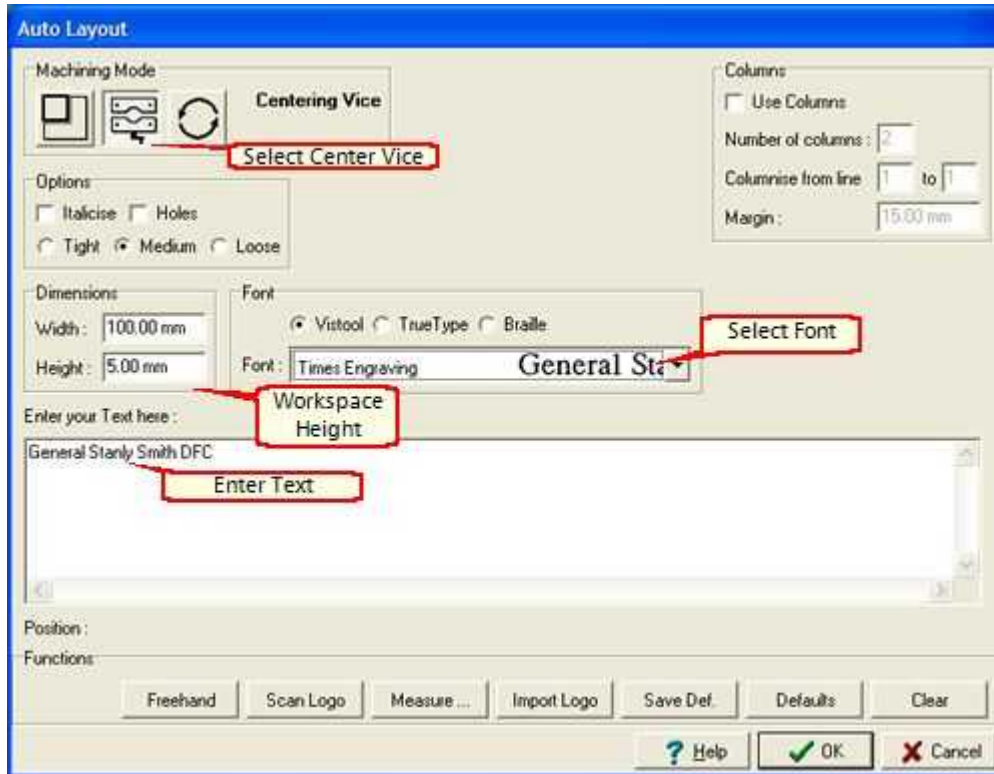

Figure 1
- 1 To engrave a pen, Left click on Text, move cursor to Auto Layout, or select the Auto Layout icon on the Toolbar. The Auto Layout Dialogue Box will appear, select the Centre Vice Option if it is not already selected, see Figure 1.
- 2 Select your Font, Enter your Text, maximum Workspace height should be 5mm and Width should be the maximum width of the available engraving area on the pen. All other parameters should be exactly as for any other flat item, see Figure 1. Click On "Ok".